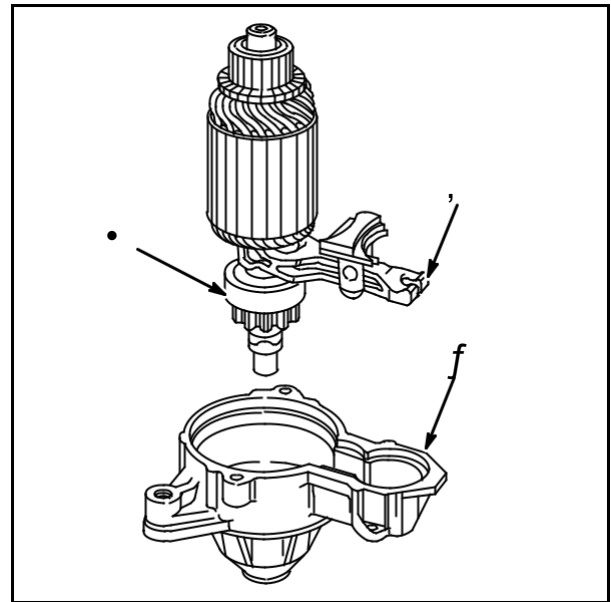

Fig. 42
1. Assemble drive lever (2) to pinion (1). Install armature and drive lever into drive housing (3), **Fig. 42**.